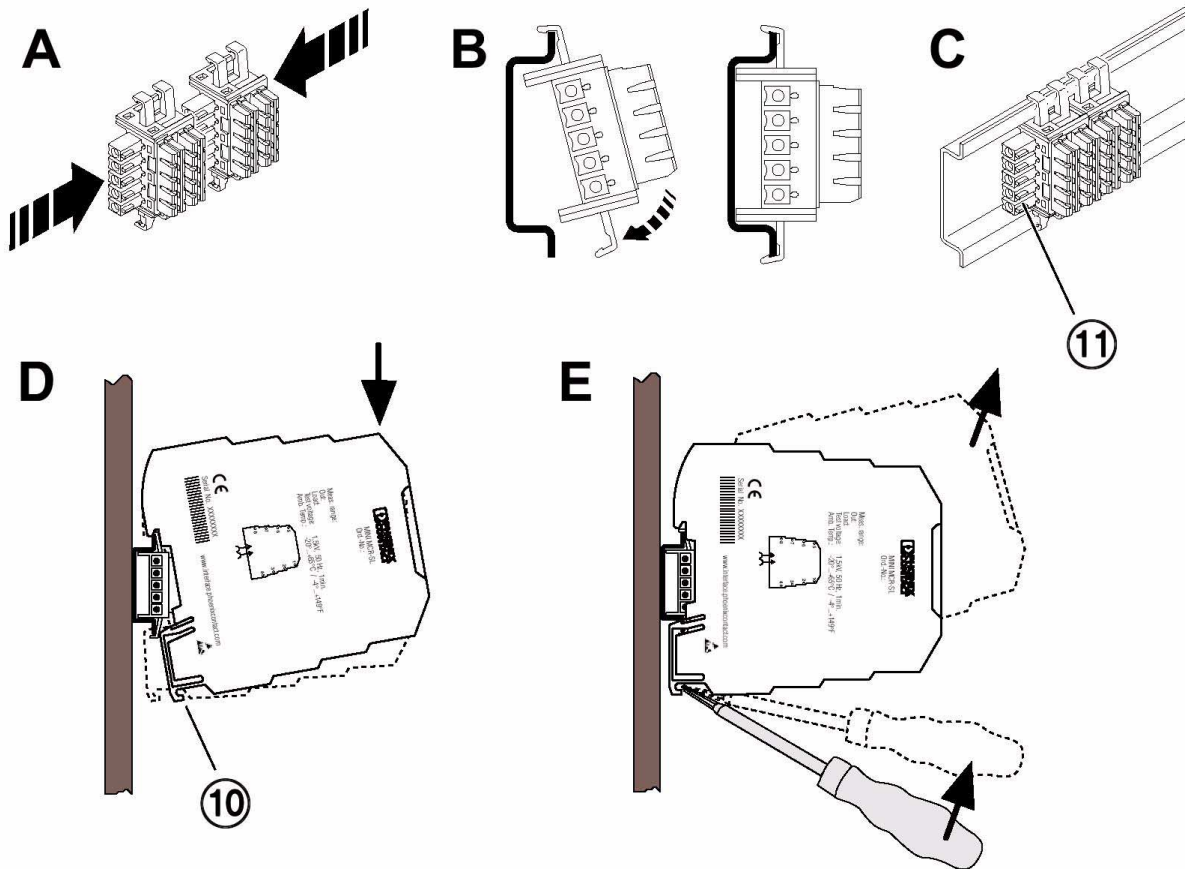

Figure 5 Mounting/Removing
Snap-on foot (Figure 5, detail D 10) **below** and **plug** (Figure 5, detail C 11) **left!**
- First position the DIN rail bus connector in the DIN rail to bridge the voltage supply (see Figure 5).